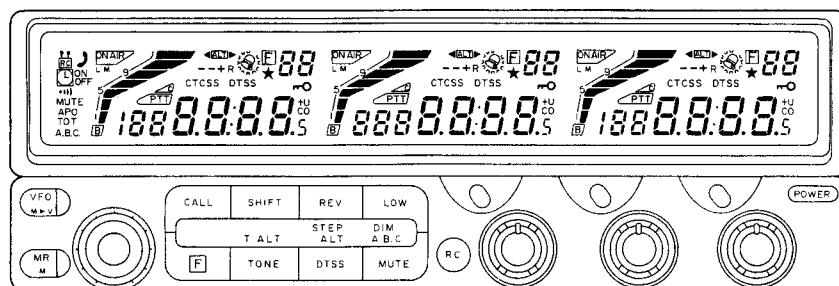

Fig. 56
- After setting the various controls as shown in Table 23, make sure that the indications of the display and the LEDs are as shown in Figure 56 when the POWER switch is turned ON while pushing the MR key.